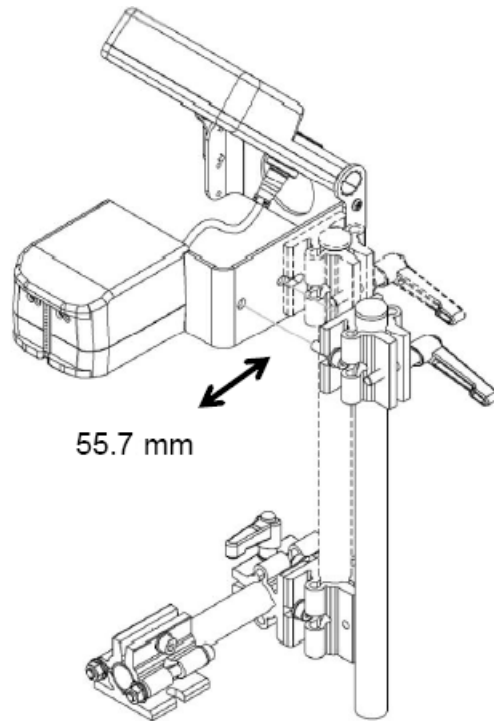

Figure 3-9: Movement Distance
Note: There are two methods of installing the printer brace. This enables the printer to move forward and backward by 55.7 mm distance. Refer to Figure 3-9 on page 3-8.
- 4 Insert the wire of the externally-connected sensor through the orifice on the cover. The total length of the wire should be around 140 mm (Figure 3-9 on page 3-8).